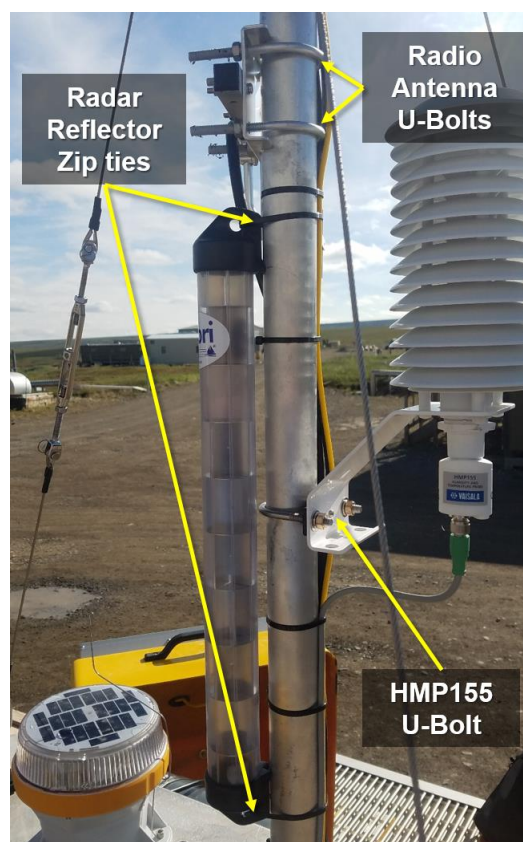

Figure 40. Remove Instruments from Met Mast
26. Remove the Humidity sensor (HMP155) and Radio Antenna. Reference Figure 40.
27. The radar reflector may remain on the Mast or Technicians may remove it by cutting the zip ties (Figure 40). NEON HQ recommends removing this component if the AIS Buoy seasonal storage location has minimal physical security measures in place (to prevent theft/tampering/vandalism).